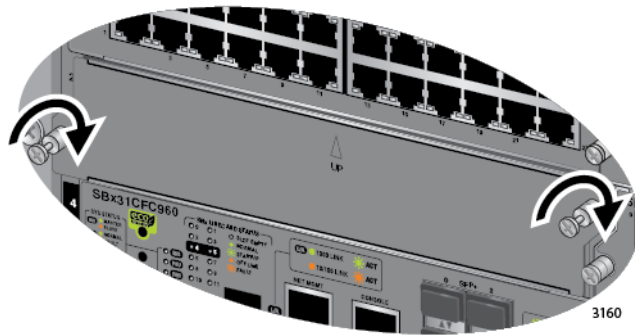

Figure 97. Tightening the Thumbscrews on a Blank Slot Cover
2. Finger tighten the two thumbscrews to attach the blank panel to the chassis, as shown in Figure 97 on page 155.